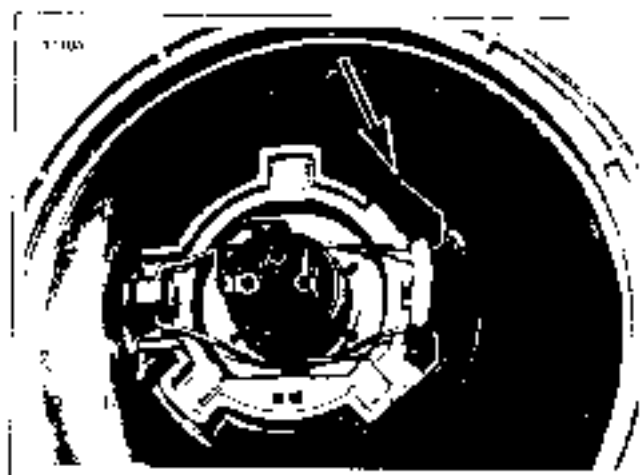

Figure 8-34. Wire Retaining Clip
2. Pull connector block (16) from bulb (4) prongs.
3. Remove rubber boot (3) from back of headlamp lens (5).
4. See Figure 8-34. Squeeze wire retaining clip ends to unhook them from notches in headlamp assembly.